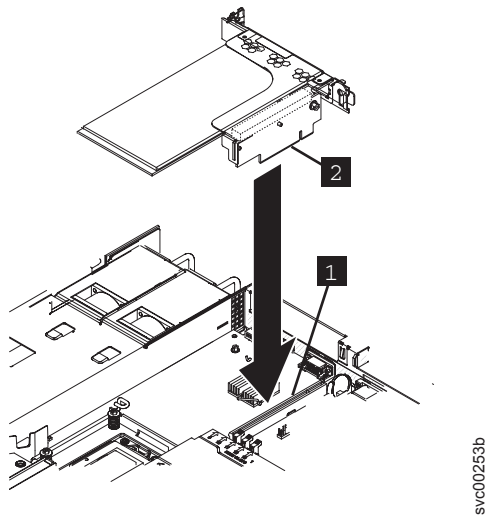

Figure 190. Replacing the 10 Gbps Ethernet riser-card assembly for the SAN Volume Controller 2145-CG8
4. Align the 10 Gbps Ethernet riser-card assembly connector with the PCI slot 2 connector on the system board, as shown in Figure 190.